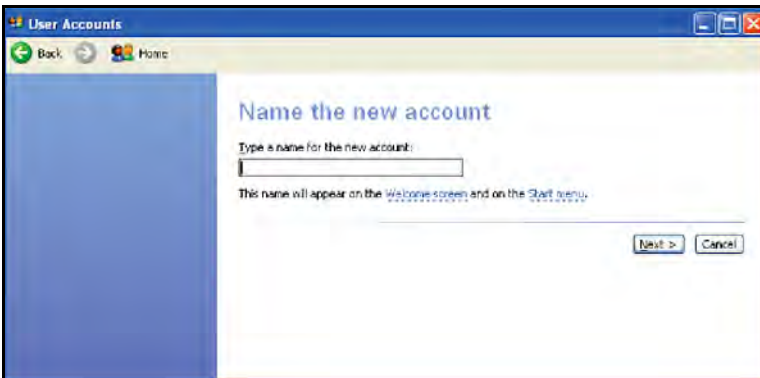

Figure 110: Naming the Account
3. Select a name for the new account (*Figure 110* below). This name will identify the operator in all inspection tasks, and will be stored with all the user actions on USM Vision+.